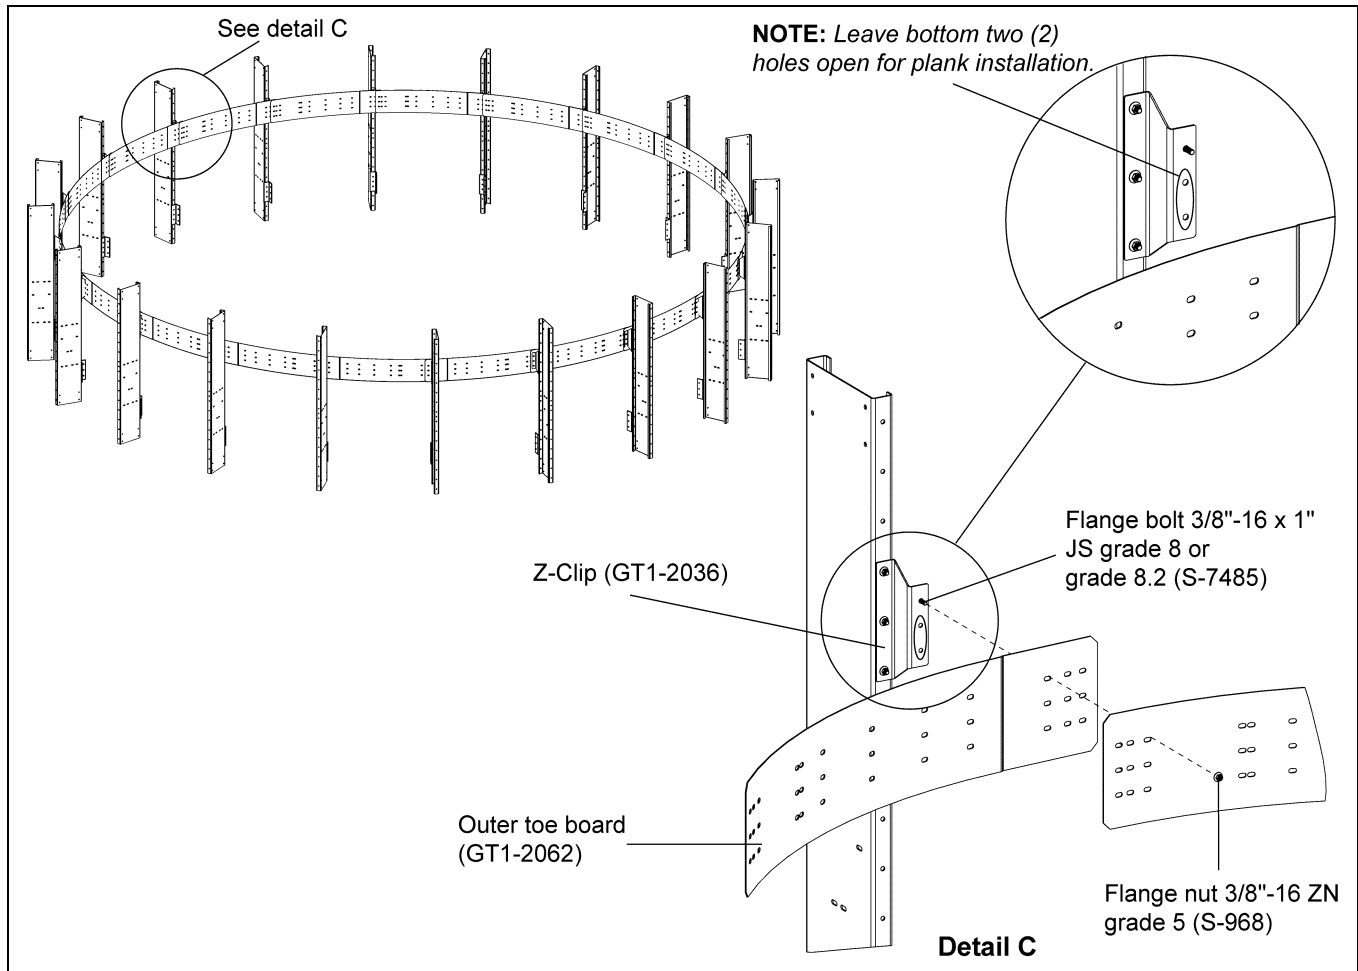

Figure 5D
1. Install the outer toe board (GT1-2062) to the Z-clips (GT1-2036). All toe boards should be installed between the Z-clips using 3/8"-16 x 1" JS grade 8 or grade 8.2 bolts (S-7485) and 3/8"-16 ZN grade 5 nuts (S-968). (See Figure 5D.)